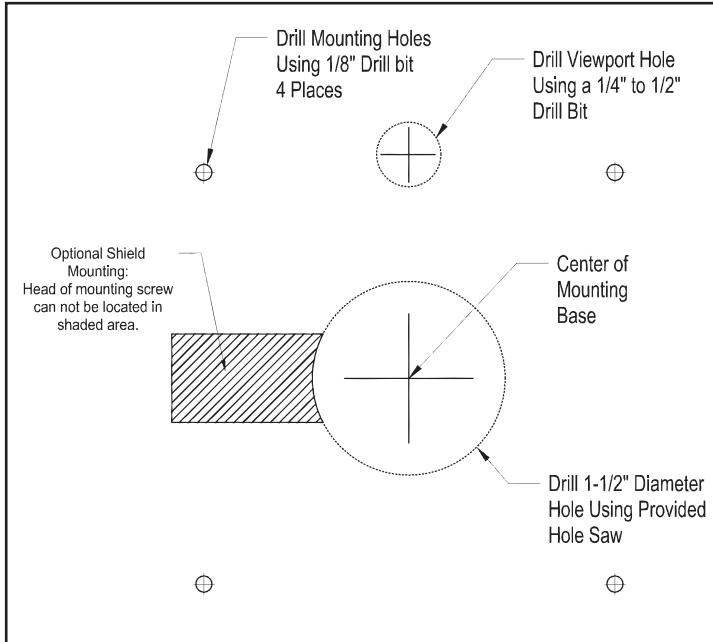

Figure 3
3. Drill 1/8" diameter mounting holes at positions indicated on template. (See Figure 3)
4. Cut out the large opening (1½" hole) on the template. (See Figure 3)
5. Using a ¼" to ½" drill bit, drill a viewport hole as indicated on the template. (See Figure 3)
8. Attach the UV-Aire mounting base onto the plenum with the supplied sheet metal screws. (Refer to template shown in Figure 3) This must be tight in order to activate the built in safety switch.